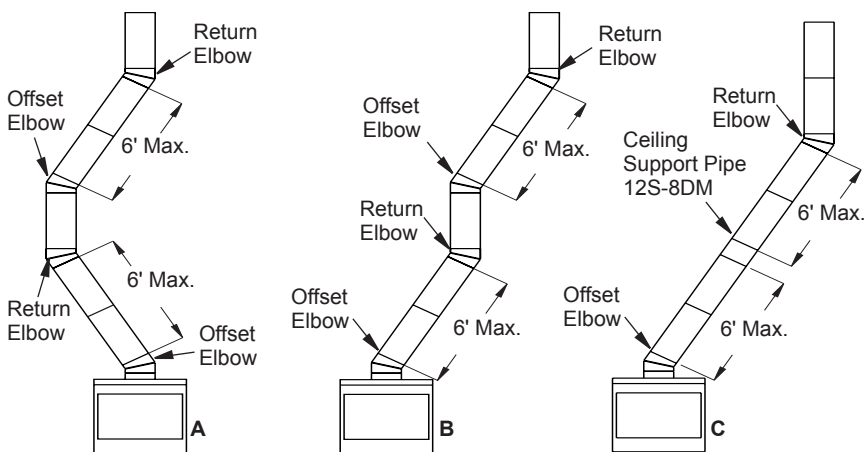

Figure 10 - Typical Offset Installation
1. To achieve desired offset, you may install combinations of 12", 18", 24", 36" and 48" length of double wall pipe (see offset chart and Figure 10).
3. Maximum length of pipe between supports (return elbow or 12S-8DM) is 6' of angle run. Maximum of two 6' angle run sections per chimney system (see Figure 10).